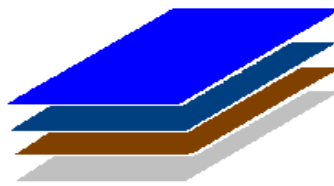

Figure 1
1. Single sided poly weave foil in Figure 1.